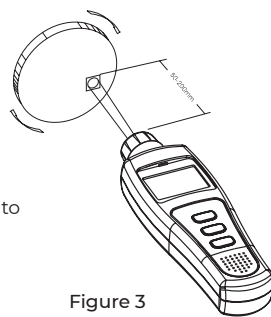

Figure 3
A. RPM Measurement (see Figure 3)